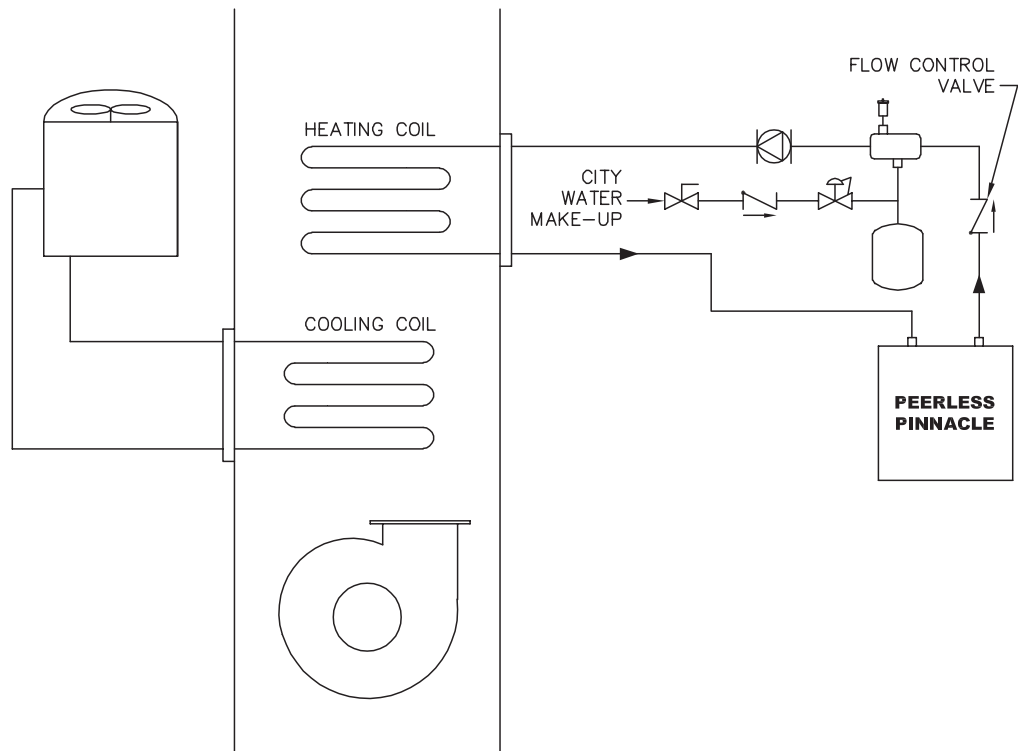

Figure 3.9: Boiler Connected to a Heating Coil in a Forced Air System
2. For boilers connected to heating coils in a forced air system where they may be exposed to chilled air circulation, install flow control valves or other automatic means to prevent gravity circulation of the boiler water during cooling cycles. See figure 3.9 for illustration.